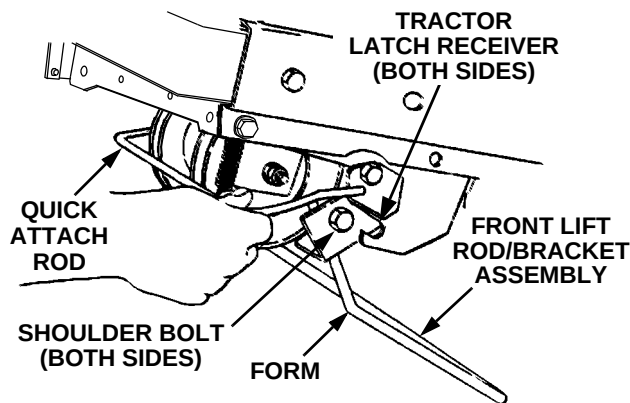

Figure 6-20
4. Refer to Figure 6-20 to ensure the correct orientation of the front lift rod/bracket assembly [form (bend) in sides of rod point downward]. From the front of the tractor, push downward and hold the tractor quick-attach rod. Slide the shoulder bolts on each side of the front lift rod/bracket assembly fully into the left and right tractor latch receivers. Release the tractor quick-attach rod to capture the front lift rod/bracket assembly in the tractor latch receivers.